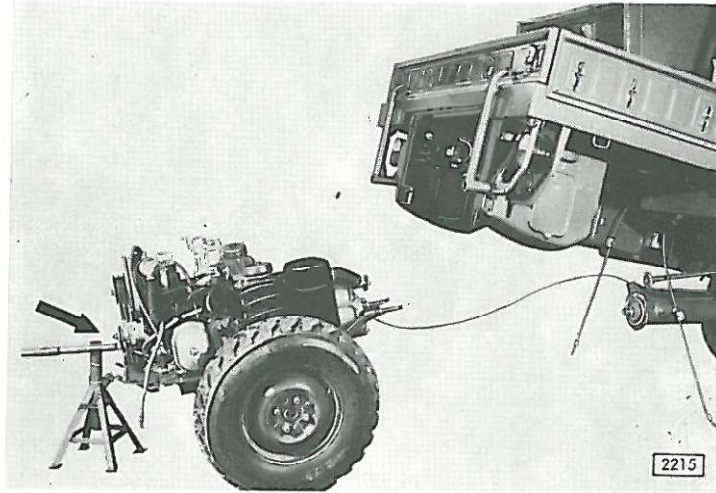

fig. 4
2. The crank handle or similar instrument can be used to hold the whole unit in horizontal position by one person, after sticking it into claws of the governor drive pulley (see fig. 4).